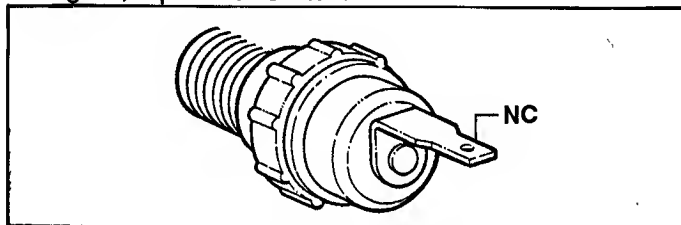

FIGURE 3.14
1. Disconnect wire connector from terminal. See Figure 3.14.